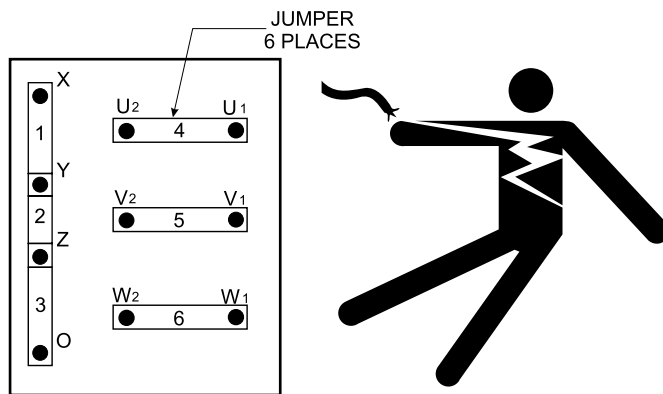

Figure 11. Voltage ChangeOver Board
A wide range of voltages are available to supply voltage for many different applications. Voltages are selected by applying jumpers (6) to the **voltage changeover board** (Figure 11). To obtain some of the voltages as listed in Table 7 (see below) will require a fine adjustment using the **voltage regulator (VR) control knob** located on the control panel.
The **voltage changeover board** (Figure 11) is located on the control box, behind the generator control panel. This board has been provided for ease of voltage selection.